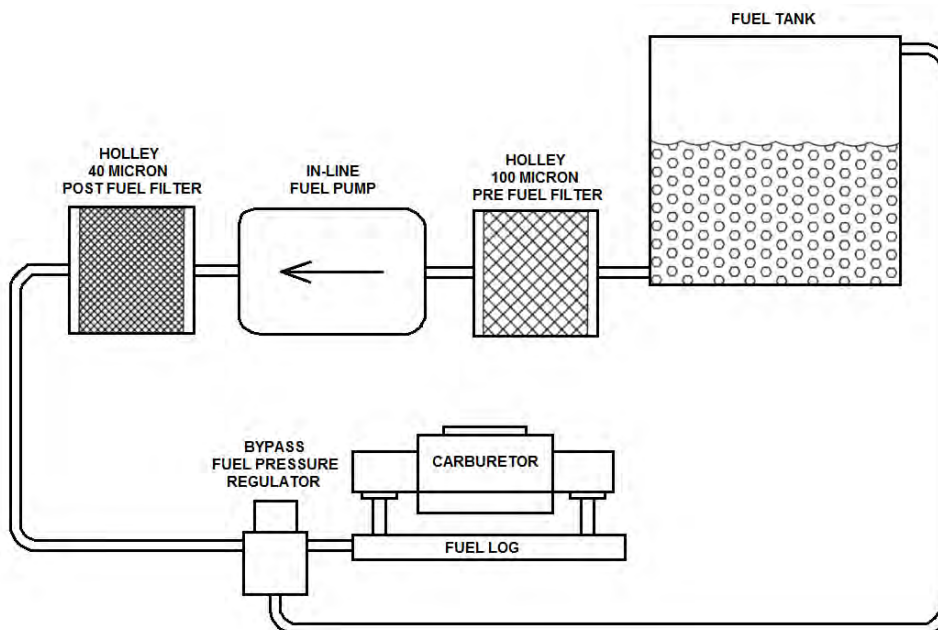

Figure 1a (Carb applications only)
5. Connect the fuel supply line from the tank to the pre-filter and then **to the inlet port of the pump**. Connect the main fuel feed line to the outlet port of the pump, then to the post filter. See **Figures 1a and 1b**.
NOTE: A return style fuel pressure regulator is required for use with the Holley HP fuel pumps. Please refer to the chart on page one for recommended fuel pressure regulators. Refer to figures 1a, and 1b, for recommended plumbing scenarios. .